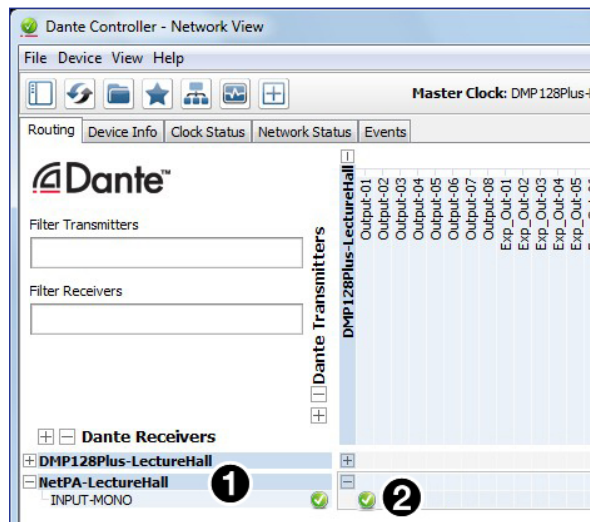

Figure 22. Routing Inputs and Outputs
1. Click the **+** box next to the input channels (receivers) on the NetPA AT (**NetPA-LectureHall** in the example in figure 22, **1**).